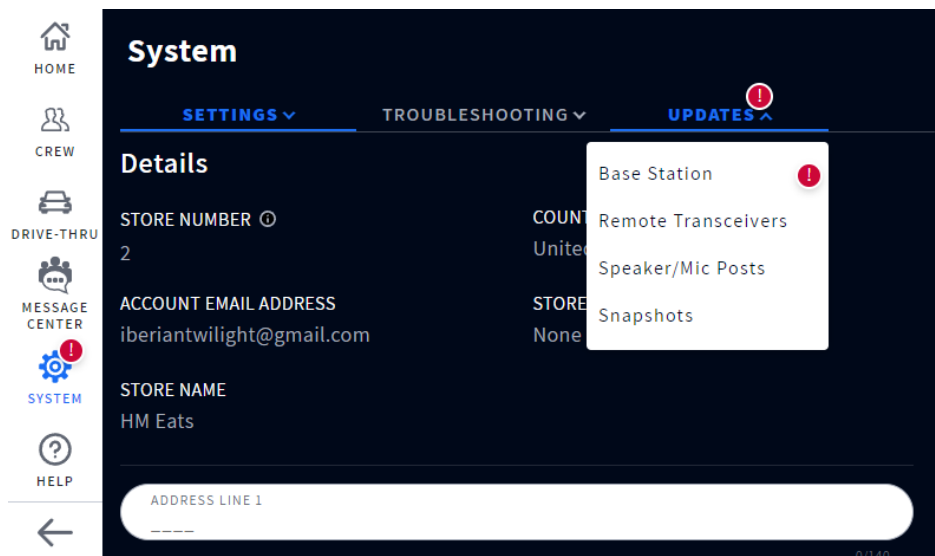

Fig. 6.5
2. Tap on the UPDATES tab. In this example, the Base Station option requires attention. See Fig. 6.5.